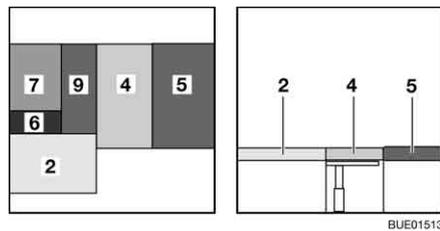

Fig. 151 After conversion
- Place the back cushion (Fig. 151,4) on the table.
- Place the back cushion (Fig. 151,9) on the table.